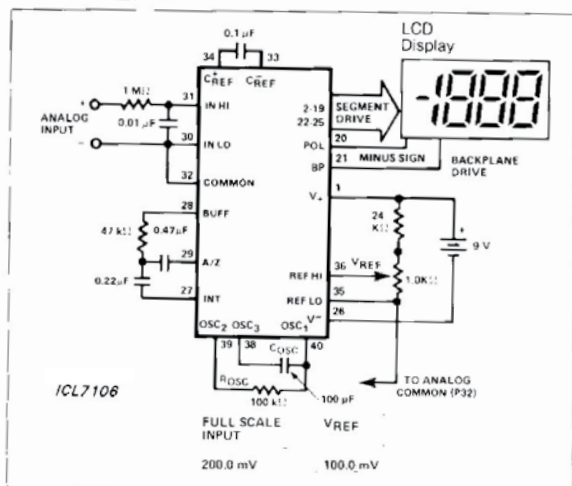
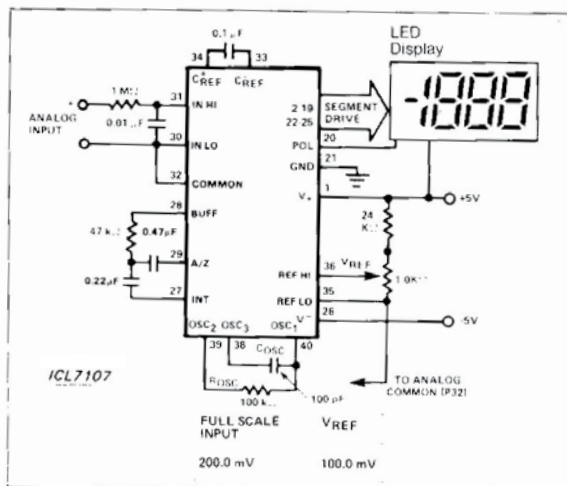

Figure 1. Maxim ICL7106 Typical Operating Circuit
Figure 2. Maxim ICL7107 Typical Operating Circuit
**Note 3:** Unless otherwise noted, specifications apply to both the ICL7106 and ICL7107 at TA = +25°C, fCLOCK = 48kHz. ICL7106 is tested in the circuit of Figure 1. ICL7107 is tested in the circuit of Figure 2.
(V+ = 9V; TA = 25°C; fCLOCK = 48kHz; test circuit - Figure 1; unless noted)
**Note 6:** Test condition is VIN applied between pin IH-HI and IN-LO through a 1MΩ series resistor as shown in Figures 1 and 2.
**Note 10:** 1MΩ resistor is removed in Figures 1 and 2.